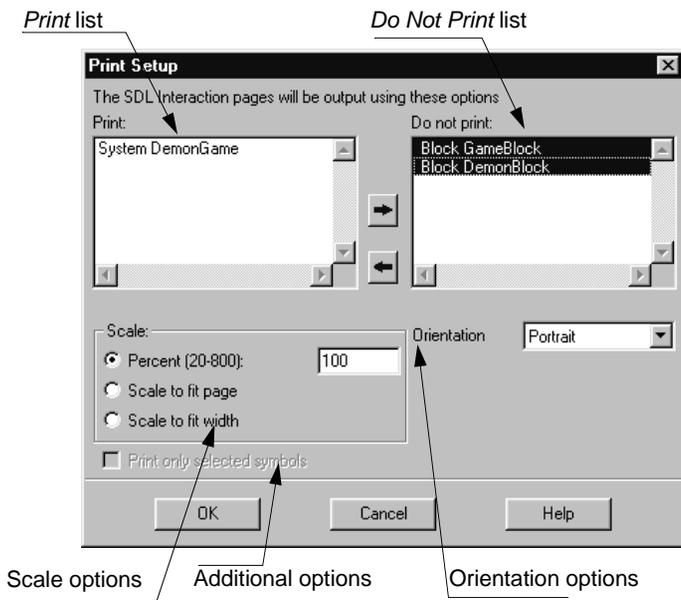

Figure 84: The Organizer Print Setup dialog
- *Print Setup* dialog in the SDL, OM, SC and HMSC Editors and, when applicable, in the Organizer, see Figure 84.